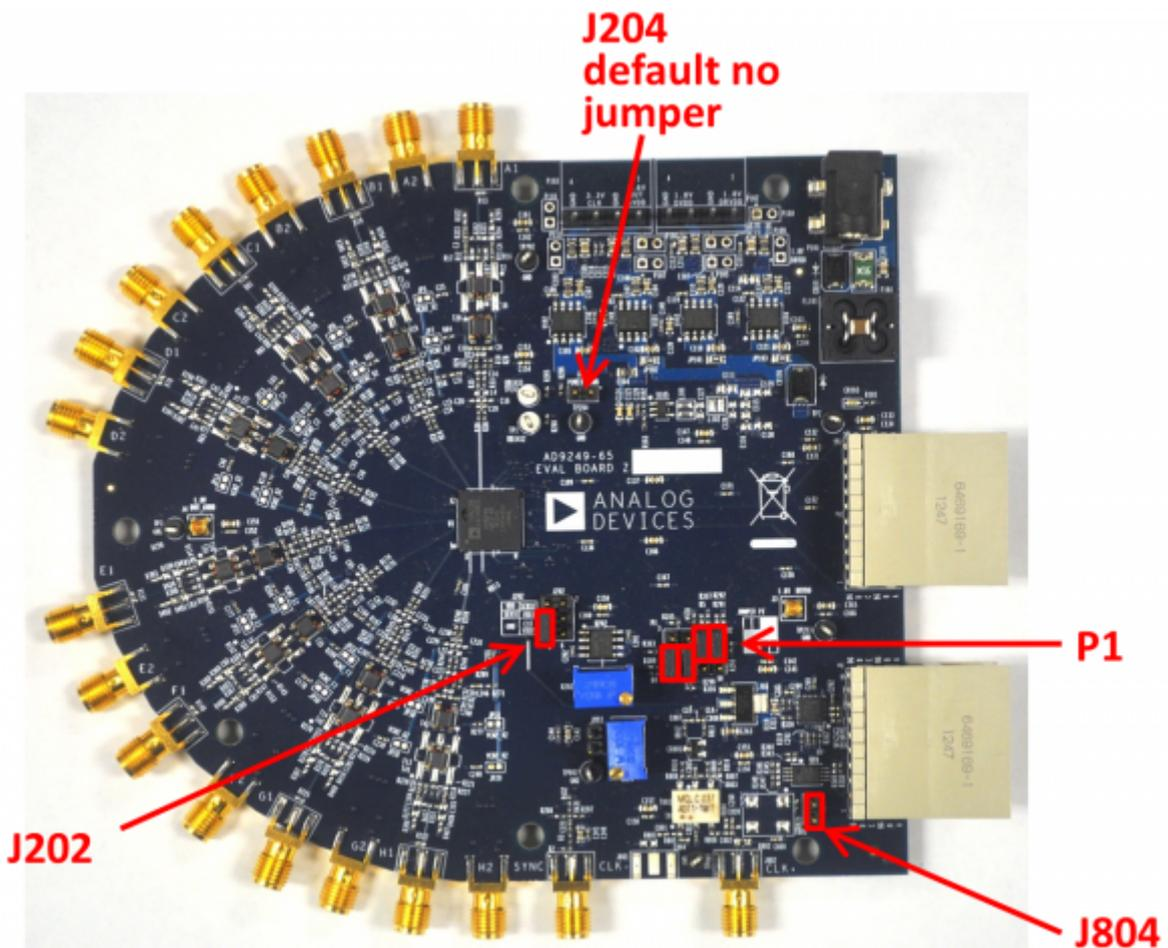

Figure 2. Default Jumper Connections for AD9249-65EBZ Board
2. On the ADC evaluation board, confirm that the jumpers are installed as shown in Figure 2.
Set the jumper settings/link options on the evaluation board for the required operating modes before powering on the board. The functions of the jumpers are described in Table 1. Figure 2 shows the default jumper settings.
| J202 | This jumper selects between internal V_{REF} and external V_{REF} . To choose the ADC's internal 1V reference, connect Pin 3 (DUT_SENSE) to Pin 5 (GND) as shown in Figure 2. To use the on-board AD822 buffered reference, connect Pin 2 (DUT_SENSE) to Pin 1 (AVDD), and connect Pin 4 (DUT_VREF) to Pin 6 (EXT_REF). Adjust external VREF to be 1.0V using potentiometer R202. To apply a reference voltage from an external off-board source, connect Pin 2 (DUT_SENSE) to Pin 1 (AVDD) and apply the reference voltage to Pin 4 (DUT_VREF). The AD9249 reference voltage is specified to be 1.0 V. |